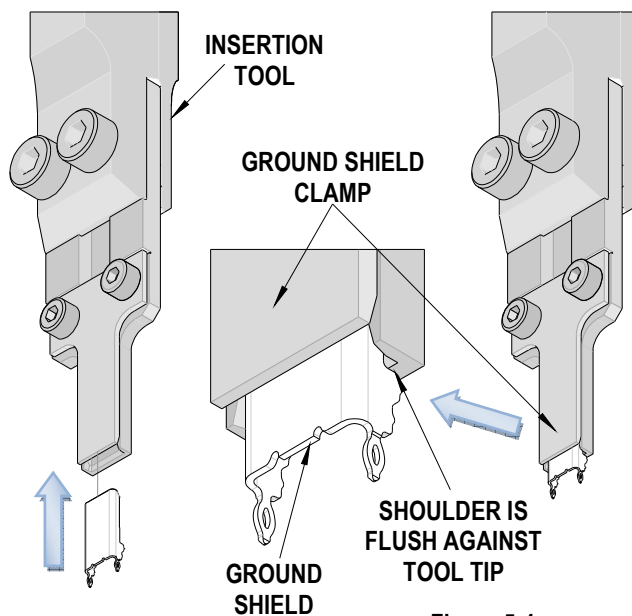

Figure 5-4
3. The ground shield is completely seated in the insertion tool when, the ground shield is resting against the insertion tool tip and can no longer be moved up. See Figure 5-4.